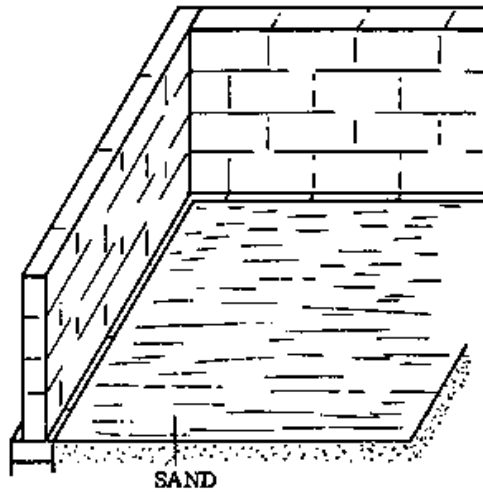

Fig. 1
a. Clean the whole area and level the sand surface (Fig. 1).